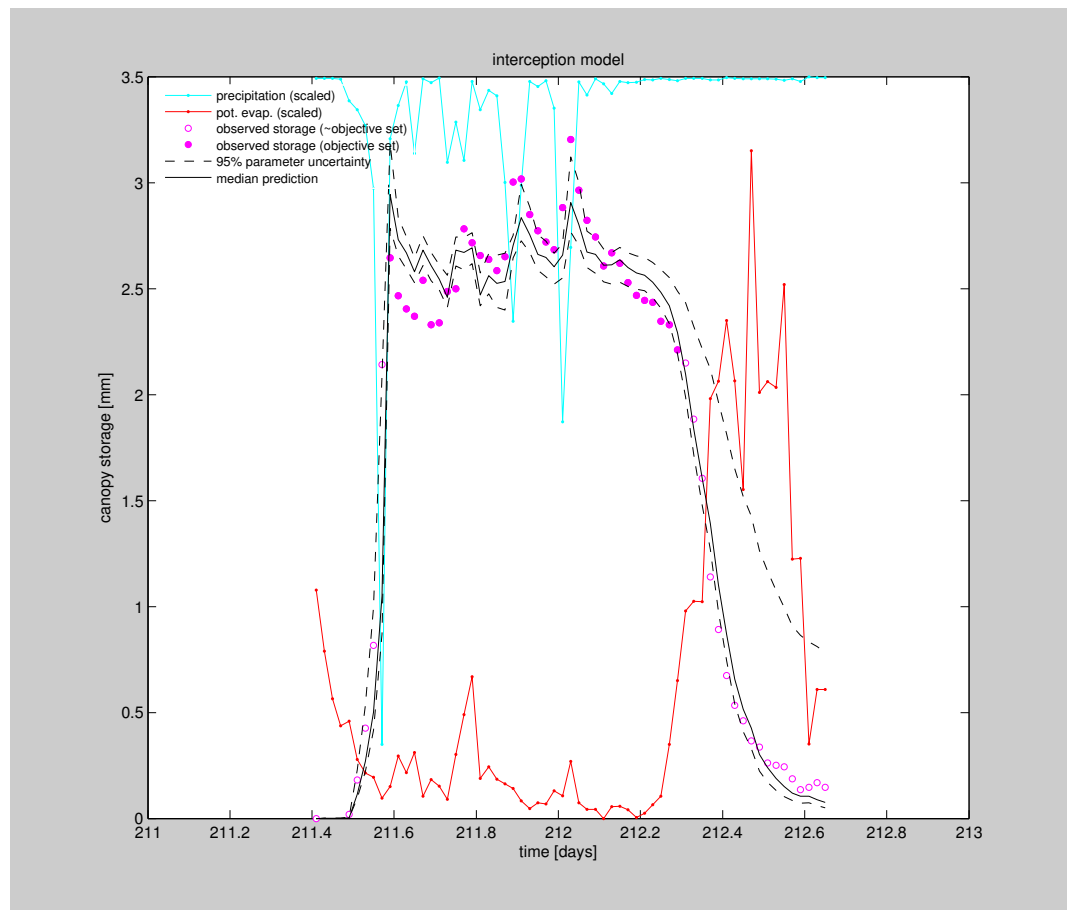

Figure 4.3: Example of the interception model with objective based on high-storage values only.
- 54. If you didn’t already do this, adapt the script such that the simulated canopy storage dynamics are visualized starting from  $t=211.41$  through  $t=212.65$ . Let your visualization differentiate between observations that are part of the objective set and those that aren’t. You should get a figure more or less like Figure 4.3.